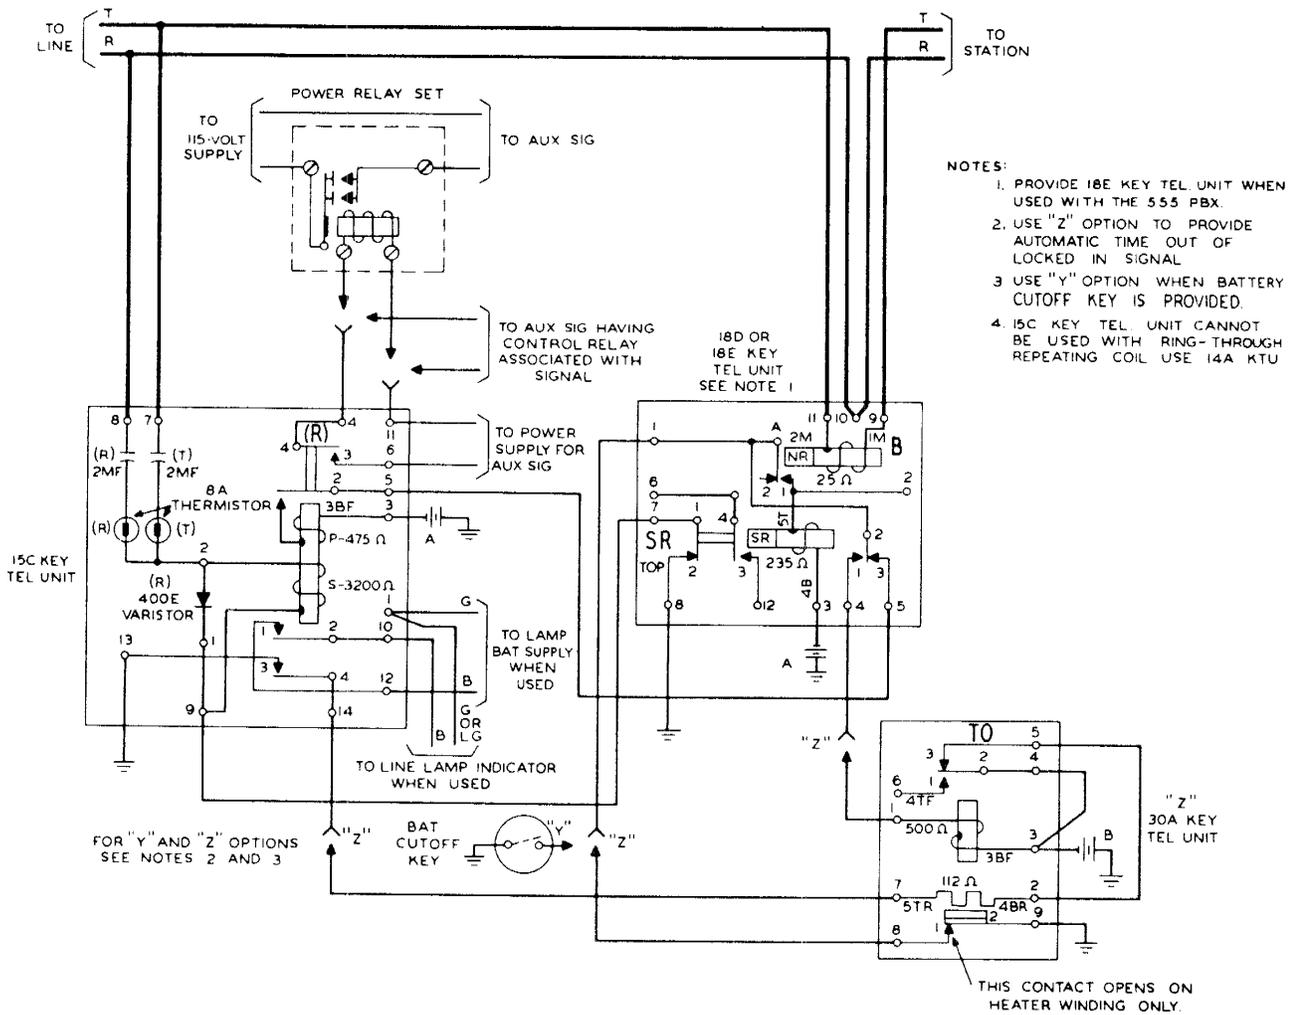

Fig. 8 - Connections and Circuit Operation for Continuous Auxiliary Signals
**2.08** Continuous operating signals, either low voltage or power operated, should be connected as shown in Fig. 8. Low voltage signals connect directly to the 15C key telephone unit.
**3.01** The circuit operates as follows (Fig 8):